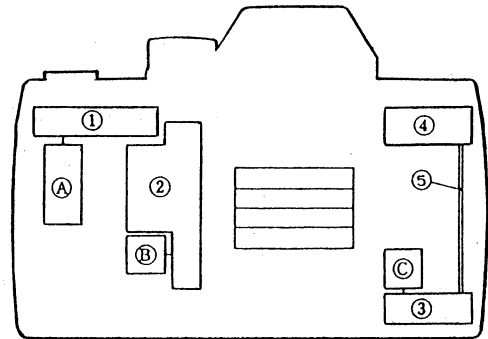

Fig.1 Layout of Units
(1) Body Structure
The main driving units and their layout are as shown in Fig.1. ① is the Film Winding Mechanism, ② the Quick Return Mechanism and ③ and ④ the Film Rewind Mechanism. These units are provided with their own motors which are designed to give appropriate torques, respectively.